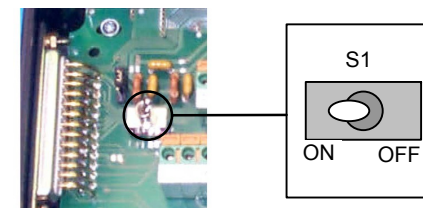

Figure 3 - Power Switch ON/OFF Positions
Switch ON the C-BOX 100 power switch (see Figure 3). The correct polarity of the power connection is signaled by the green LED, while the red LED turns on in case of wrong polarity.
The power switch (see Figure 3) switches the power supply ON or OFF for both the C-BOX 100 and the connected scanner.
- 2) Verify that the C-BOX 100 power switch is off (see Figure 3).